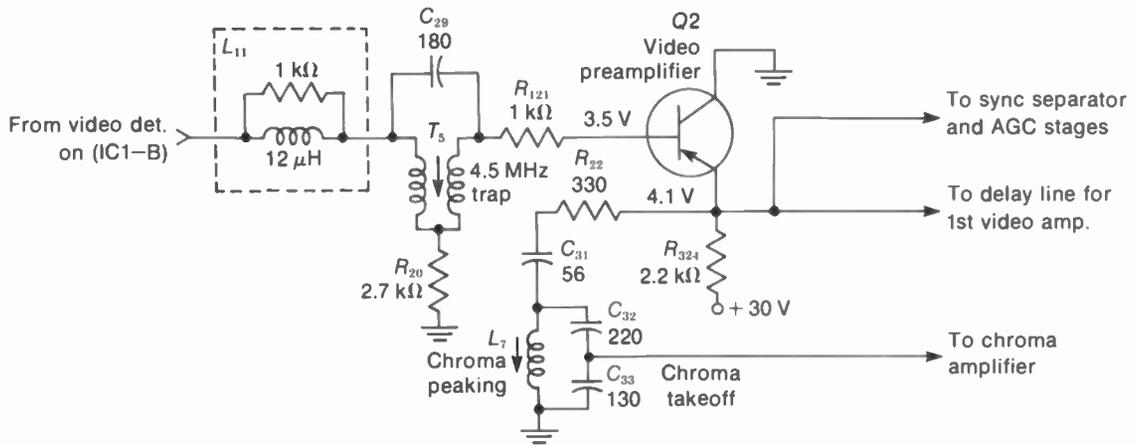

FIGURE 17-3 TRANSISTOR VIDEO PREAMPLIFIER CIRCUIT. R IN OHMS AND C IN PICOFARADS. (FROM RCA CHASSIS CTC-59)
**Transistor video preampifier.** In Fig. 17-3, the signal from the video detector is fed through a 4.5-MHz sound trap to the base of Q2. This trap is a bridged-T, consisting of  $C_{29}$ ,  $T_5$ , and  $R_{24}$ . The peaking coil  $L_{11}$  is not part of the trap. Q2 is a common-collector or emitter-follower stage because the collector is grounded and the load is in the emitter circuit.